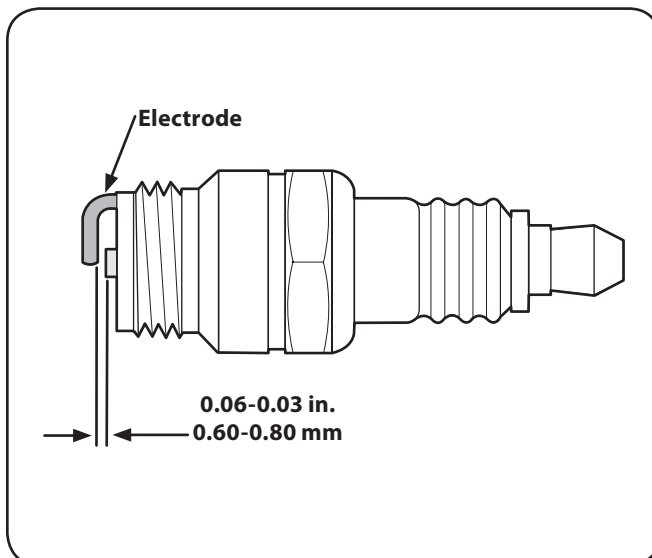

Figure 6-4
6. Measure the plug gap with a feeler gauge. Correct as necessary by bending side electrode. See Figure 6-4. The gap should be set to 0.030 in. (0.76mm).